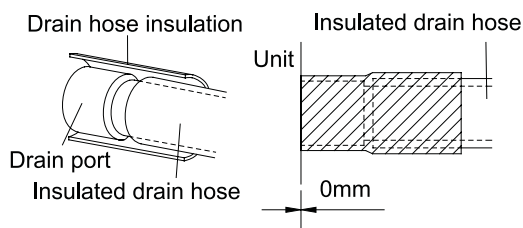

Figure 3-1-13
- (13). Be sure to insulate where the drain port and the drain hose is connected.( Figure 3-1-13 )